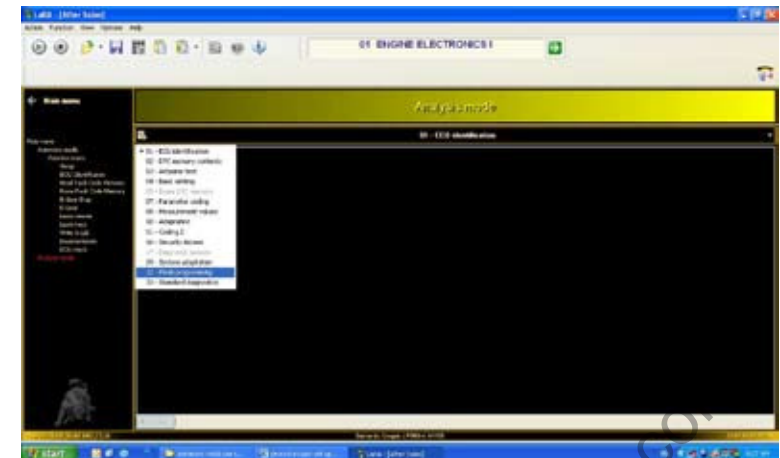

Fig.106
4. If the result is “NOK”, you will return to LaRa-AS in “Analysis Mode”. Select one control unit at a time and start the “32 flash programming” (**Fig.106**).
4. If the result is “NOK”, you will return to LaRa-AS in “Analysis Mode”. Select the E-Gear control unit and start the “32 flash programming” (**Fig.106**).